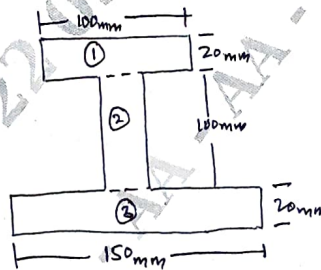

Fig.Q2(b)
b. Determine the centroid of the Fig. Q2 (b).